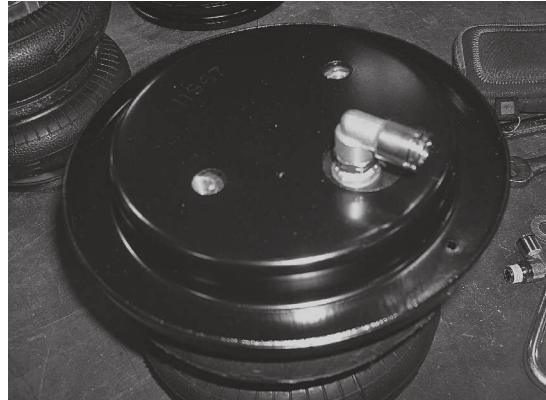

fig. D.4
1. Set a roll plate (D) on top of the air spring (C). The radiused, or rounded, edge of the roll plate will be toward the air spring so that it is seated inside the roll plate (Fig. D.4). Install the 90° swivel fitting (H) into the top of the air spring, finger tight plus 1 1/2 turns.